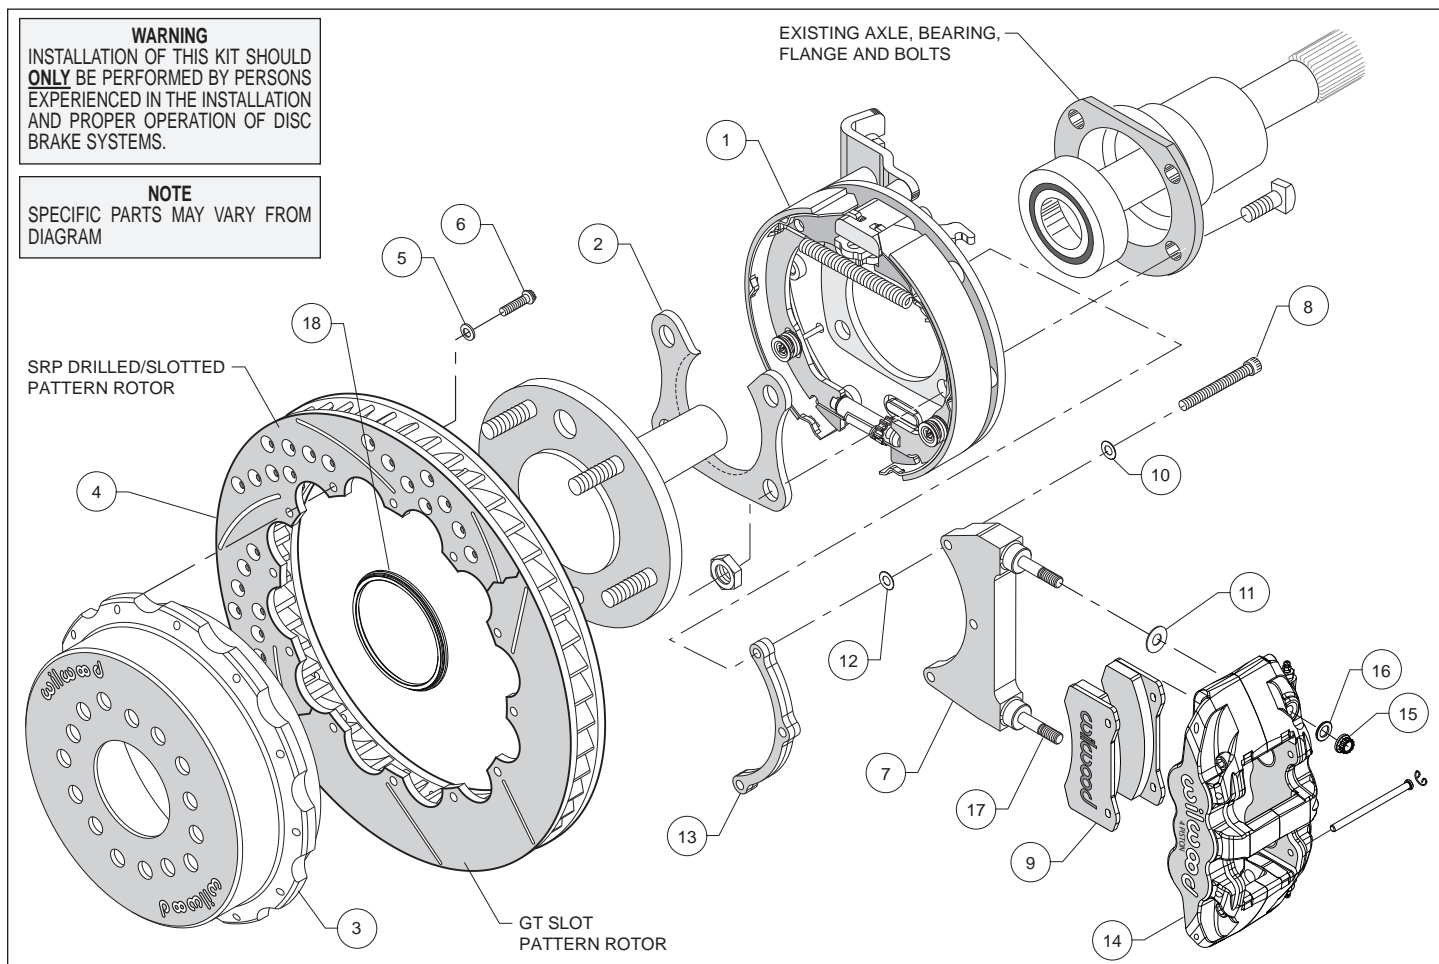

Figure 1. Typical Installation Configuration
- Orient the bracket assembly (1) as shown in Figure 1, and slide it onto the axle flange. Ensure that the bracket assembly backing plate fits flush against the housing flange. Insert the axle shaft into the axle housing.
- Install the bearing retainer (2) with the opening pointing upward and the lip facing inward (toward the bearing), as shown in Figures 1 and 4. Secure using the Original Equipment Manufacturer (OEM) bolts and nuts, Figure 1. Apply red *Loctite*® 271 to the OEM bolt threads and torque to OEM specifications
- Slide the rotor registration adapter (18) onto the axle register on the axle flange with the smaller O.D. facing toward the rotor/hat (3). Align the correct hole pattern in the hat with the stud pattern on the axle flange. **NOTE:** Some OEM and aftermarket axles come with stud sizes larger than 0.50" diameter. Verify stud size and have a qualified machine shop drill the hats to the correct size, if necessary. Slide the hat/rotor assembly (3 and 4) over the wheel studs covering the bracket kit assembly (1) and against the axle flange face. Check to be sure the hat seats squarely against the hub. Install three lug nuts (finger tighten) to keep the rotor/hat assembly in place while continuing with the installation.
- **NOTE:** Please reference the caution statement at the beginning of the assembly instructions. The caliper mounting bracket assembly (7) should be installed first with clean, dry threads on the mounting bolts (8). Install the bracket from the rear side of the bracket kit assembly (1) by sliding bolt (8) through flat washer (10), bracket (7), shim washer (12) and finally through the spacer (13), see Figure 1. **NOTE:** End of bolt should not exceed inside face of insert. The bracket must tighten squarely against the back side of the bracket kit assembly (1). Inspect for interference from casting irregularities, machining ridges, burrs, etc. Use one thin shim (12) between the bracket (7) and spacer (13) during initial trial fitting.
- Lubricate caliper mounting studs and nuts with lightweight oil. Install one shim (11) over each pre-installed stud (17) on the radial mount bracket (7). Slide the caliper (14) in place over the studs and rotor, then install the washer (16) and lock nut (15) to hold the caliper in place. The caliper bleed screws should be pointing up. Snug the lock nuts (15) and check that the rotor (4) is centered in the caliper (14). Add or subtract .015" shims (12) as necessary between the caliper mounting bracket (7) and the spacer (13) to center the caliper (14).
- Remove the two pad retaining pins from the caliper (14) by carefully popping out the pin retaining clips and sliding out the pins. Insert the brake pads (9) into the caliper from the bottom, Figure 1. With the friction material facing the rotor, secure the brake pads in place with the pad retaining pins and clips. Reinstall the caliper onto the caliper mounting bracket and temporarily tighten the lock nuts. Check that the top of the brake pad is flush with the outside diameter of the rotor. If not, adjust by adding or subtracting shims (11) between the caliper and the bracket.
- Adjust the parking brake shoes outward (using a drum shoe adjustment tool available at your local auto parts store) while spinning the hat (3) until a slight drag is felt against the hat/drum. Remove the lug nuts that were holding the hat/rotor in place. Install the wheel and lug nuts. Check to see that the wheel rotates freely without interference.
- Once all clearances have been checked, remove the wheel, caliper, hat/rotor from the bracket kit assembly (1). Secure the caliper mounting bracket (7) to the bracket kit assembly (1) using red *Loctite*® 271. Torque bolts (8) to 180 in-lb. Reinstall the hat/rotor assembly and again use lug nuts to hold it in place. Reinstall the caliper, torque the caliper nuts (15) to 47 ft-lb.
- **NOTE:** Clevis and cable kits which attach to the parking brake assembly are not included in the Wilwood parking brake kit. Wilwood offers a generic style parking brake cable kit, P/N 330-9371 for this application which can be ordered separately from your local Wilwood dealer or by calling Wilwood customer service at (805) 388-1188.